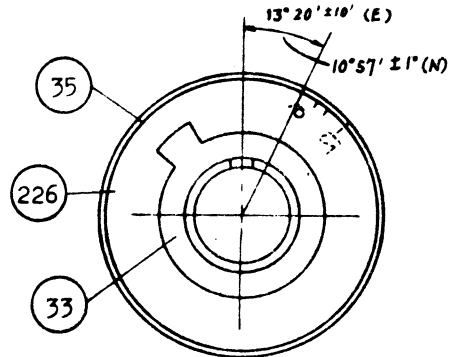

Fig. 12
- 1-1. When cementing the ASA scale #35 onto #226 in replacement, be careful to keep the correct angle so that the index 6 makes an angle of $13^{\circ} 20' \pm 10'$ from the center of the notch found on ASA stopper #33, as shown in Fig. 12.